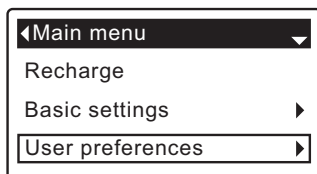

FIG. 45
1. From any of the rolling status screens, press the SELECT (O) button to display the **Main menu**.
2. Press the DOWN (▼) button to scroll through the menu options until **User preferences** is highlighted (See Figure 45).